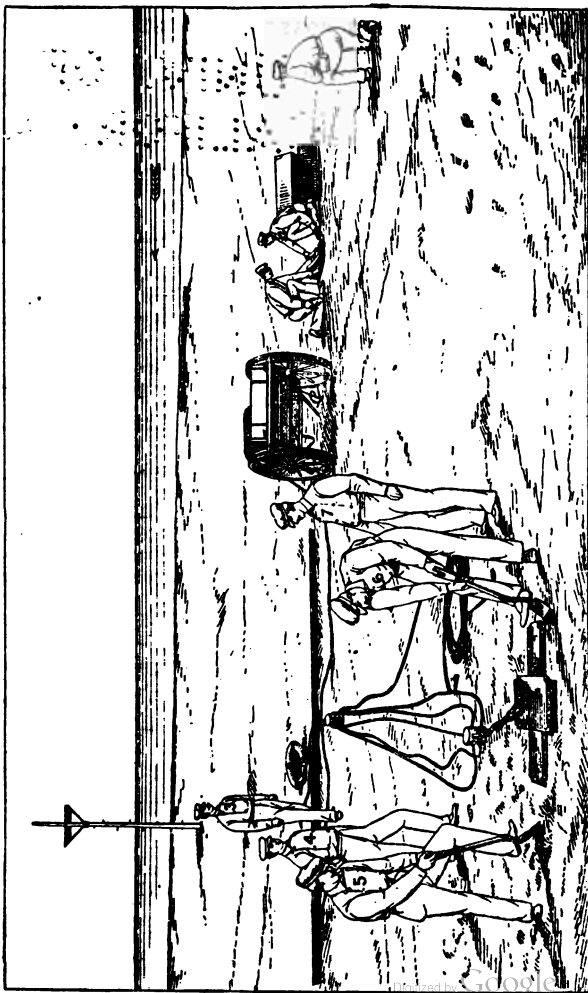

FIG. 4.—Relative positions of men while placing apparatus.
380. (1) Action.—The relative positions assumed by the men for the purpose of placing the apparatus are shown by fig. 4. The current is supposed to be running from the right, as shown by the arrow.
(2) Officer in charge puts on his haversack; *No. 4* throws buoy off the cart; *Nos. 5, 6, and 7* unload the shovels, pick, and sand anchor, and proceed at once to bury the sand anchor where directed by the officer in charge. The sand anchor must be opened, its sides at right angles to each other, and buried upon its flat in a narrow trench of sufficient depth, say 2 feet, and the trench then filled in solidly about it. *Nos. 2 and 3* remove the shot-line box. The officer in charge and *No. 1* remove the gun, and place it in position four or five paces to windward of the cart; *Nos. 2 and 3* place the shot-line box, inverted, on a line with the muzzle of the gun, and 3 feet to windward (wind), unless the wind is directly on shore, when they will place it to the right, and, after lifting the pins clear of the line, will cant the box in the direction of the wreck.
(3) If through carelessness the shot line has been faked too tightly upon the pins, it should not be forced off the pins by the bottom board, which is liable to split, but the frame should be raised and a few of the bottom fakes removed with the hand when the remainder will fall off into its place in the box.
(4) Officer in charge loads with cartridges, *No. 1* provides the shot, wipes and holds it while *No. 2* wets a fathom of the shot line and bends it into the shank with three half hitches. *No. 1* then inserts the shot into the bore from side of gun, forcing it